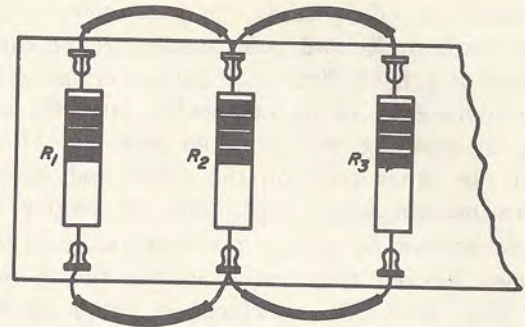

Fig. 8-17
Step 1. Connect resistor R_3 in parallel with resistors R_1 and R_2 , as shown in Fig. 8-17.